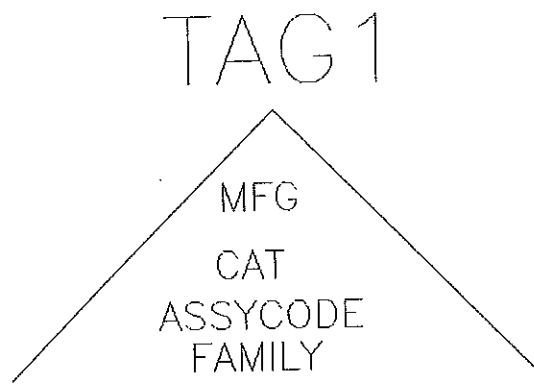

Figure 13-38 Different attributes inserted into the symbol
18. Insert MFG tag in the drawing, refer to Figure 13-38.
19. Change the height of the CAT, ASSYCODE, and FAMILY attributes to **0.1** in the **Insert / Edit Attributes** dialog box as discussed earlier and insert them into the symbol using the **Insert Attribute** button, refer to Figure 13-38. Make sure the **Snap Mode** button is deactivated to insert these attributes at desired places.